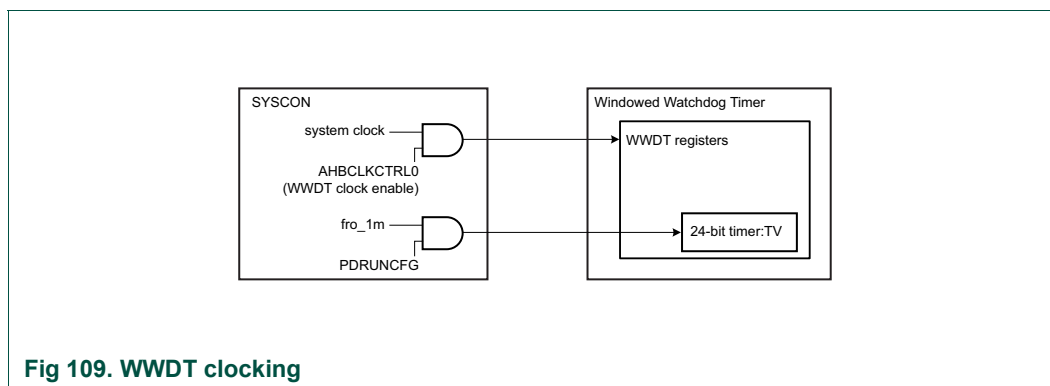

Fig 109. WWDT clocking
- The watchdog clock (WDCLK) is generated from always on FRO_1MHz clock, see Figure 109 that can be divided by WDT clock divider register value in SYSCON module. See Table 105. The accuracy of this clock is limited to +/- 15% over temperature, voltage, and silicon processing variations. To determine the actual watchdog frequency, use the frequency measure block. See Chapter 11 “LPC55S6x/LPC55S2x/LPC552x Analog control”